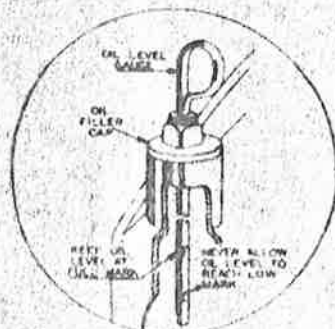

Figure 1. Oil filler opening and oil level gauge.
2. Oil—Check the oil level daily with the dipstick in the oil filler plug. See Figure 1. Add a good clean oil of the proper viscosity when the oil level is below the full mark. See paragraph No. 13 for the proper viscosity of oil to be used. DO NOT OVER FILL.
12. Oil Change—Drain the oil from the crankcase while the engine is warm. Replace the plug and fill with 2½ American quarts of fresh oil. See Figure 1.